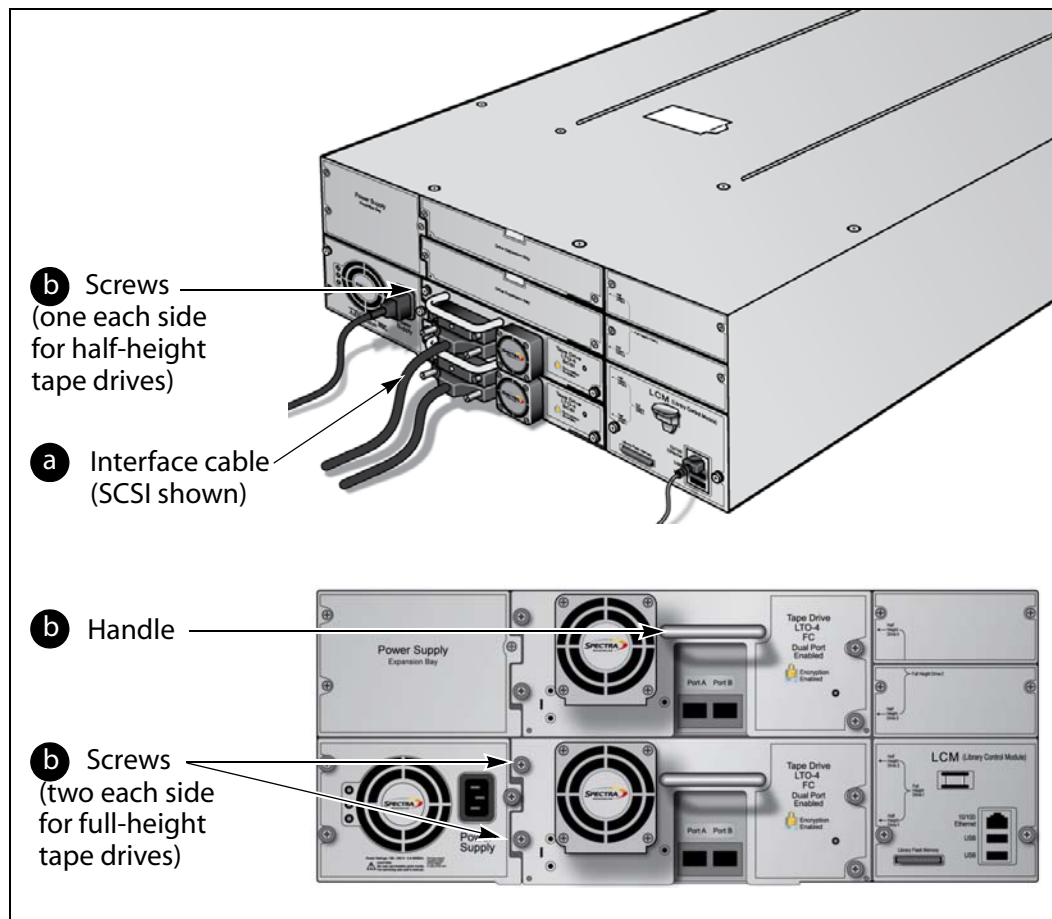

Figure 4-5 Rear panel – Replace tape drive
- a. Disconnect the interface cable (SCSI or FC) and the terminator, if one is installed (Figure 4-5, step a).
- b. Unscrew the screws, grasp the handle, and pull the tape drive straight toward you while you support it with both hands (Figure 4-5, step b).
5. Install the replacement tape drive—See Figure 4-5 and Important note following Step 4 for reference.
- LTO-3 SCSI tape drive—connect a terminator if this is the last SCSI device on the SCSI bus (Figure 4-5, step a).